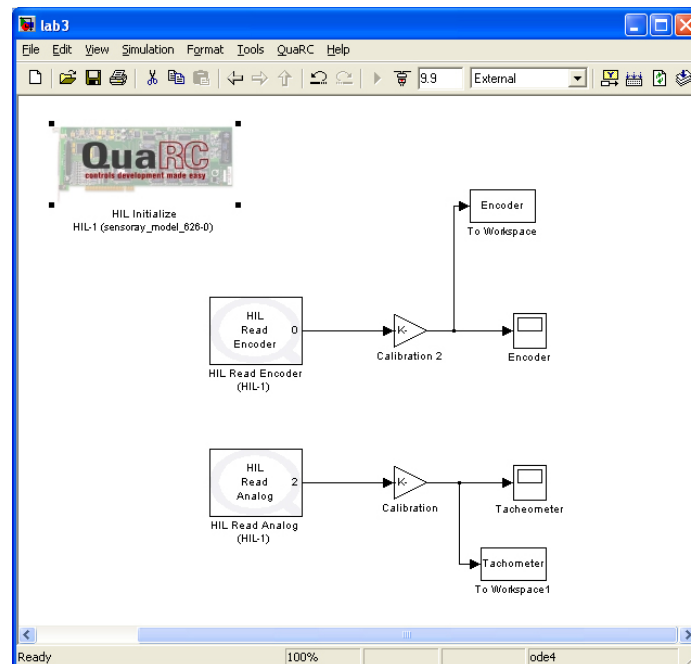

Figure 3.4: Another Simulink model for Lab 3
- You will now introduce an impulse into the real system by providing a “jolt” by hand. This can be done by tapping the gear. Prepare the **Simulink** model shown in Figure 3.4. Note that there is no **Write Analog** block required in this case since you are providing